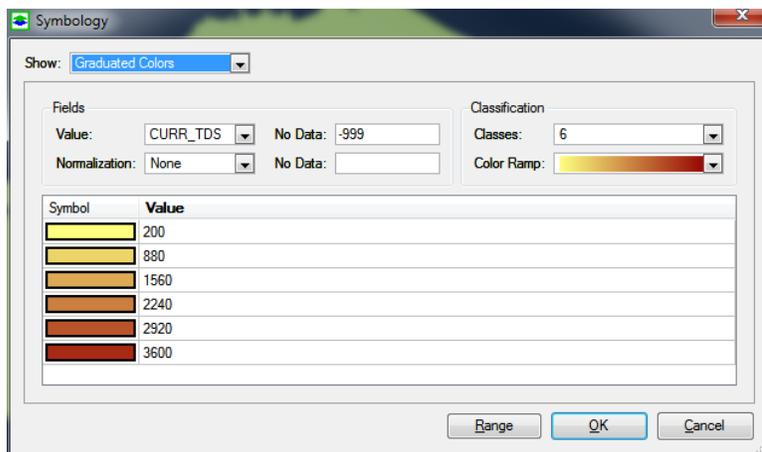

Figure 2.11. The Symbology Dialog Box Graduated Colors Style
3. *Graduated Colors* (Figure 2.11): In this style, the quantitative values of a value field are grouped into classes, and each class is identified by a particular color. A choropleth map can also be displayed by mapping the quantitative values, such as concentration, to a color ramp. For example, darker shades of red could be used to represent